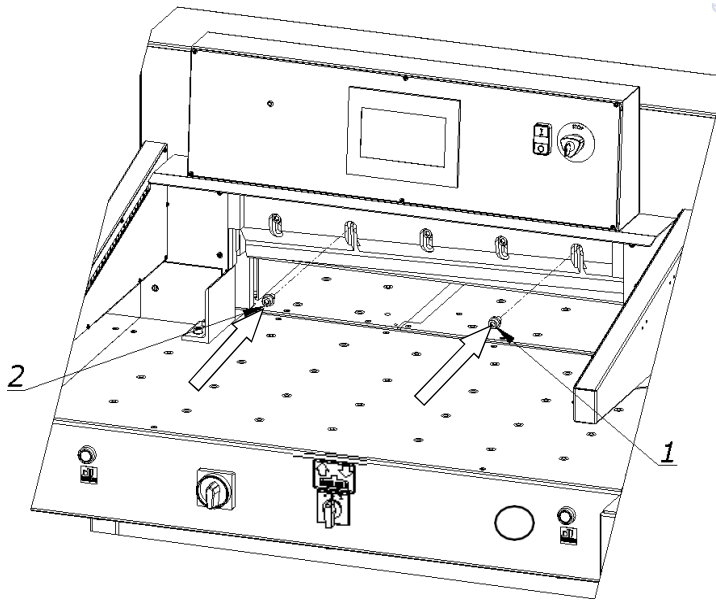

Figure 33.
8.1.2.6 Unscrew both transport lugs (1, fig. 33) and replace them with the mounting screws (1 and 2, fig.33).